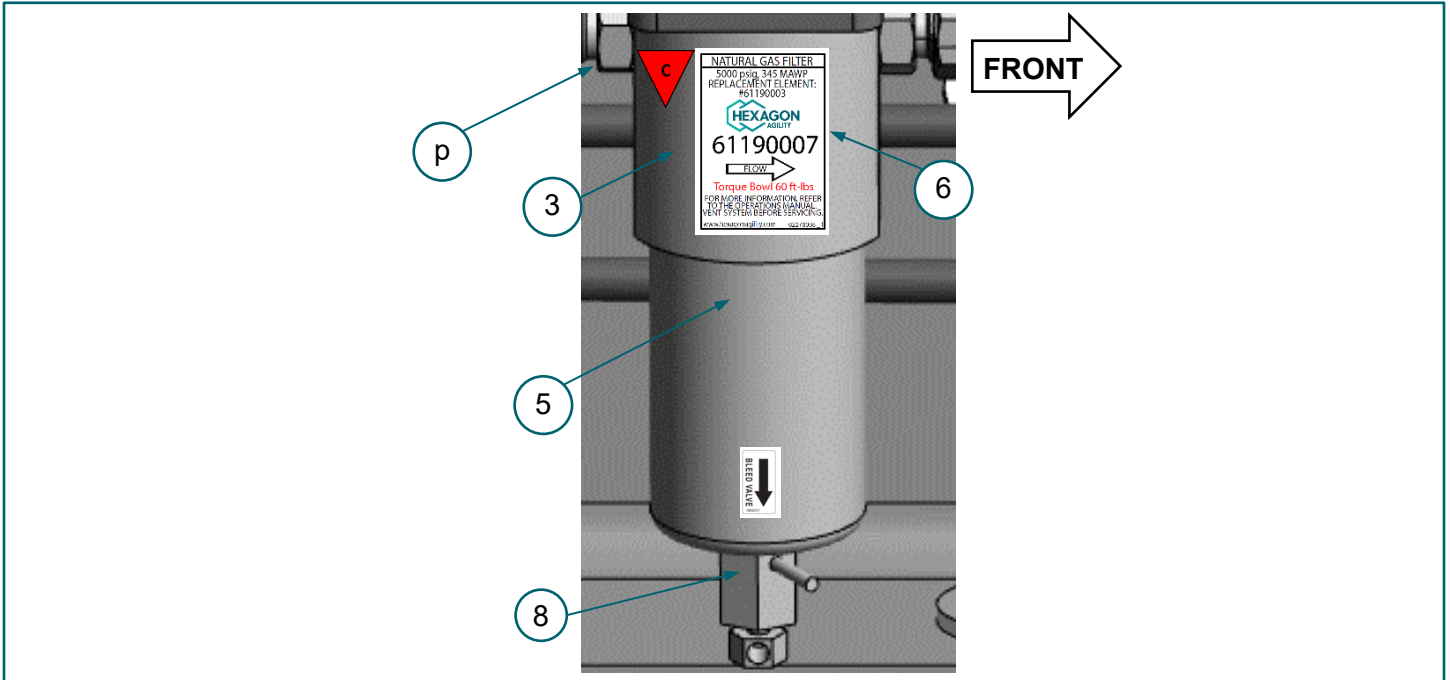

FIGURE 3–8. (3) HP fuel filter head, (5) retrofit HP fuel filter bowl, (8) bleed valve, (6) filter decal, (p) outlet port
10.  Install (6) fuel filter decal on (1) HP fuel filter head with flow arrow pointing towards the fuel filter head (p) outlet port. **FIGURE 3–8**